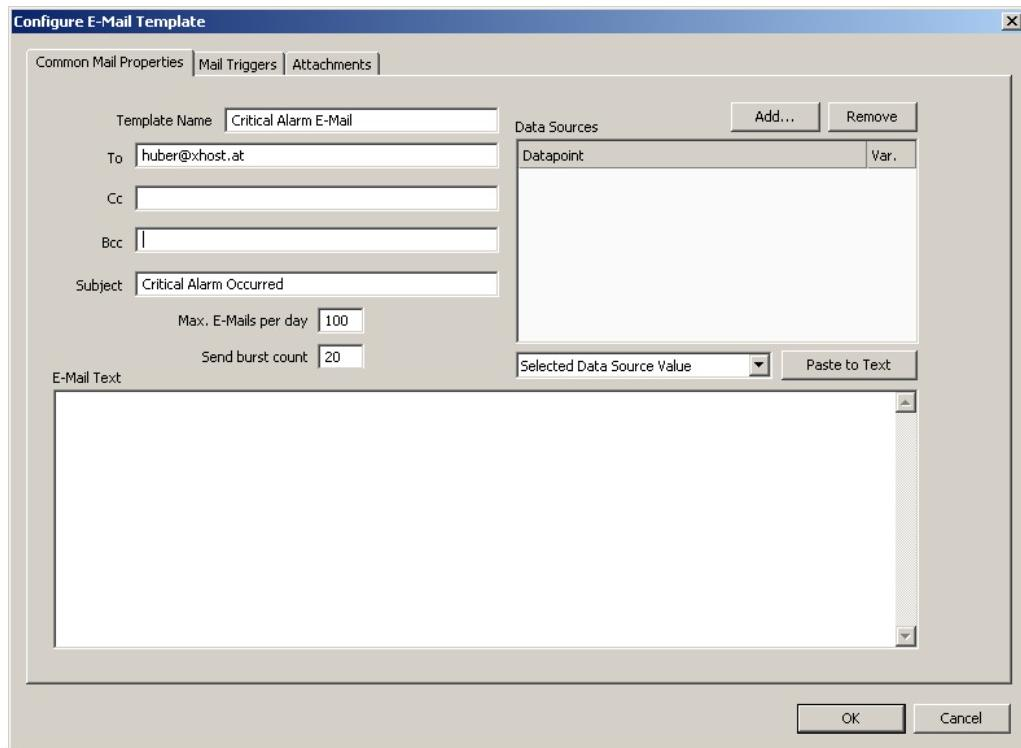

Figure 119: Configure E-Mail Template Dialog.
3. In the **Configure E-Mail Template** dialog, which is shown in Figure 119 enter the **To** address and the **Subject**. Optionally, **Cc** and **Bcc** addresses can be specified.